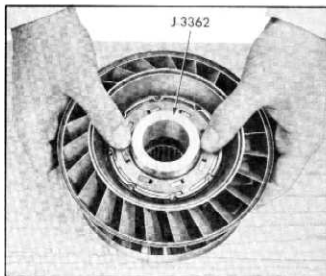

Fig. 85—Use of Loading Tool to Assemble Stators
8. Carefully rotate secondary stator over loading tool with thrust washer down and onto stator race being careful not to dislodge cam rollers (fig. 85).